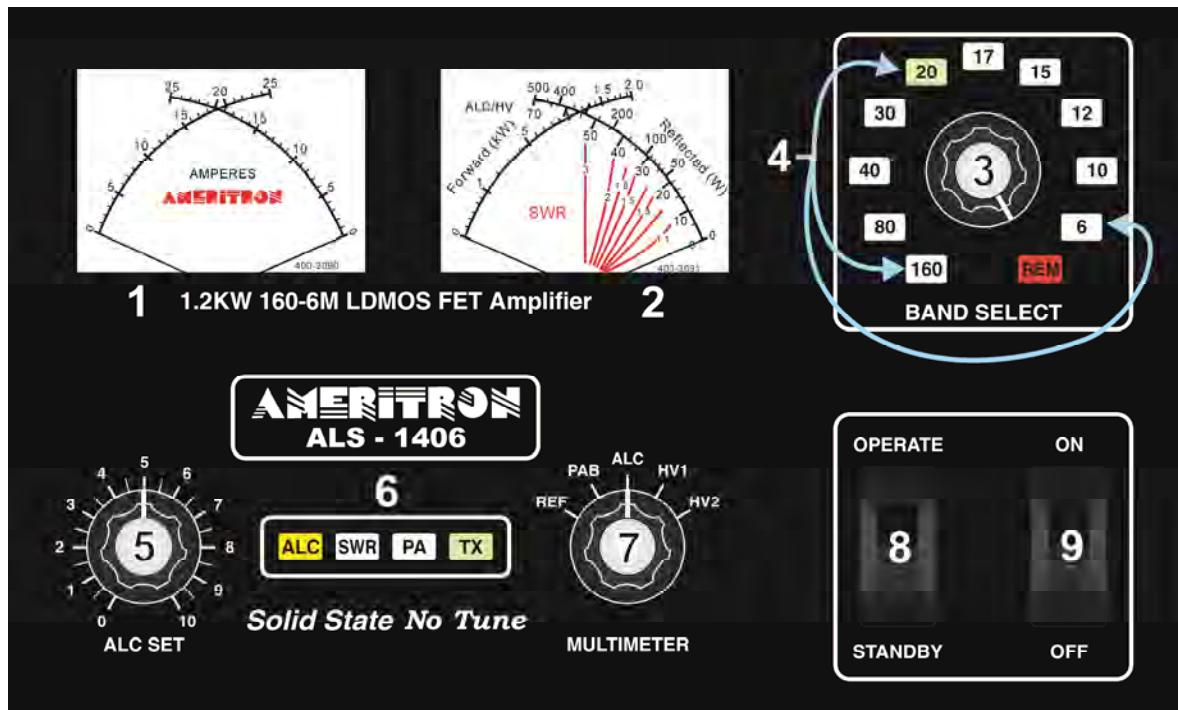

Figure 5 Amplifier Front Panel
Note: The right-hand meter's left scale-arc (fig.5 ref 2) continuously indicates forward peak envelope power (PEP) output directly in kilowatts. It is 100 watts, or 0.1 kW, per meter scale picket. PEP has no fixed relationship to long-term average power except, for constant amplitude carriers like a steady CW carrier, when PEP and average powers are equal. PEP is the highest average power during one (or more) radio frequency cycle(s) at the modulation envelope crest.
This amplifier covers all Amateur Radio frequencies below 54 MHz, as restricted by FCC or your local governing authority. Once you have established proper connections, please set the amplifier (Fig. 5, ref 3) to one of the following bands:
1. Place the **MULTIMETER** switch (fig.5 ref 7) in the **HV2** position. Place the **ALC SET** control (fig.5 ref 5) full clockwise (10 on knob scale). The multimeter is the right-side scale on the rightmost panel meter (fig.5 ref 7).
2. With the **STANDBY/OPERATE** switch (fig.5 ref 8) on **STANDBY**, turn the power switch (ref 9) **ON**.
3. There will be a slightly delayed “click” from the power supply. **HV2** (fig.5, ref 2) should immediately rise to near full scale, and after another delay, you should hear another “click”. The meters and the appropriate **BAND** LED (fig.5, ref 4) should illuminate.
4. The multimeter **HV2 scale** (fig.5, ref 2, bottom right scale) should read between 45 and 55 volts.
5. Change the meter switch (fig.5 ref 7) to **HV1**. The voltage should be the same as in step 4.
6. Rotate the **BAND** switch (fig.5 ref 3) through all positions. The appropriate **BAND** LED will illuminate, and you should hear band-filter relays switch between 160-80, 80-40, 40-30, 20-17, 15-12, and 10-6 selector position changes.
7. Set the **BAND** switch (fig.5 ref 3) to a band where you have a good 50-ohm high-power load connected.
8. Change the meter switch (fig.5 ref 7) to **REF**. In this position, the multimeter indicates reflected power.
9. With no modulation in the FM, AM, RTTY, or CW mode, and the amplifier still on standby, adjust your exciter power to about ten watts. This is to have a steady unmodulated carrier. Verify you have very low power, ideally around 10 watts carrier (not critical), and that VSWR of **the antenna system** is low. You should see almost no deflection on the reflected power scale (fig.5 ref 2) with the **MULTIMETER** switch in the **REF** position. If you see reflected power deflection, check your RF cables and antenna system. **Reminder: You cannot use a tuner in your radio, or between your radio and this amplifier, to match the antenna system. Any antenna matching must be between the amplifier and the antenna, and the antenna tuner and other items beyond the amplifier must be conservatively able to handle over 1200 watts of carrier or peak envelope power.**
10. Place the amplifier in **OPERATE** position (fig.5 ref 8). Be sure the **BAND** on the amplifier matches the band selected on the transceiver.
11. Place the transmitter or transceiver into transmit in FM, AM, RTTY, or CW modes. The green **TX** LED (fig.5 ref 6) should light. The forward power (fig.5 ref 2) should increase to approximately ten times the initial exciter power reading. Reflected power should remain very low, and the PA current should increase slightly on both scales of the current meter (fig.5 ref 1). No other LED's should illuminate.